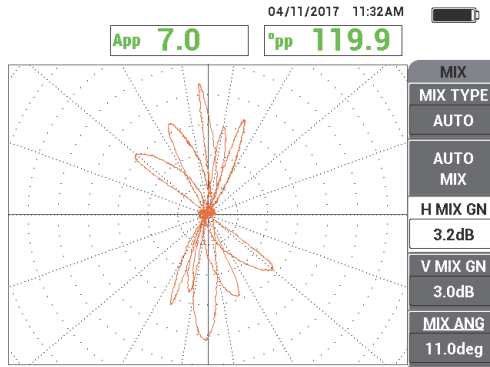

Figure 5-177 The tube scan result after moving the support ring (MIX)
3. Scan the tube for defects (see Figure 5-177 on page 253).